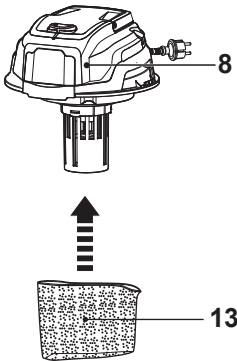
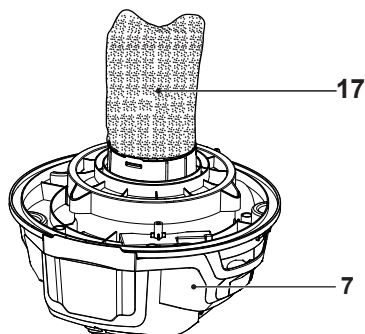

Fig. 8
Fig. 17
- > Slide the foam sleeve (17) onto the motor unit (7) (Fig. 8). Ensure it sits properly in position. Refer to Fig. 17.
Use the foam sleeve (17) during wet vacuuming operations (Fig. 17). Operating the product without the foam sleeve (17) can damage the motor unit.